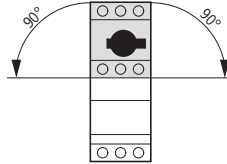

Figure 7: Approved mounting positions of the PKZM0/XTPR...BC1 motor-protective circuit-breakers
► Mount the motor protective circuit breaker only as shown in fig. 7.